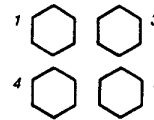

Figure 4.
23. Replace the four side rod nuts. Tighten in 25 ft lb/34 Nm increments to 125 ft lb/170 Nm in the pattern shown in Figure 4.